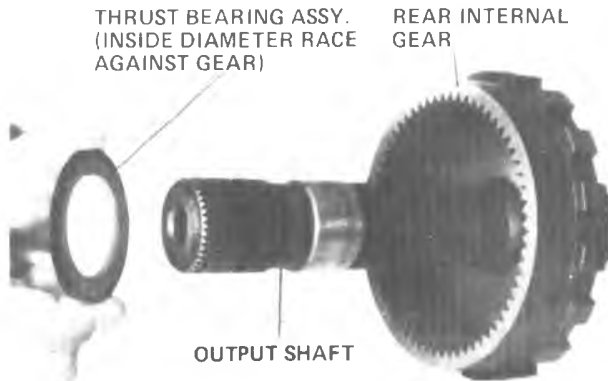

Figure 7A1-74 Installing Speedo Gear (Steel)
5. Install rear internal gear to rear sun gear roller thrust bearing assembly by placing the small diameter race over the output shaft. (Figure 7A1-75).